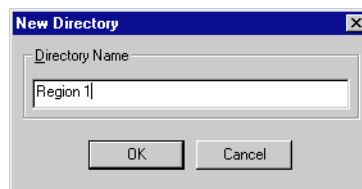

Figure 6 - New Directory Dialog Box
3. In the “New Directory” dialog box (Figure 6), enter “Region 1” in the Directory Name field.